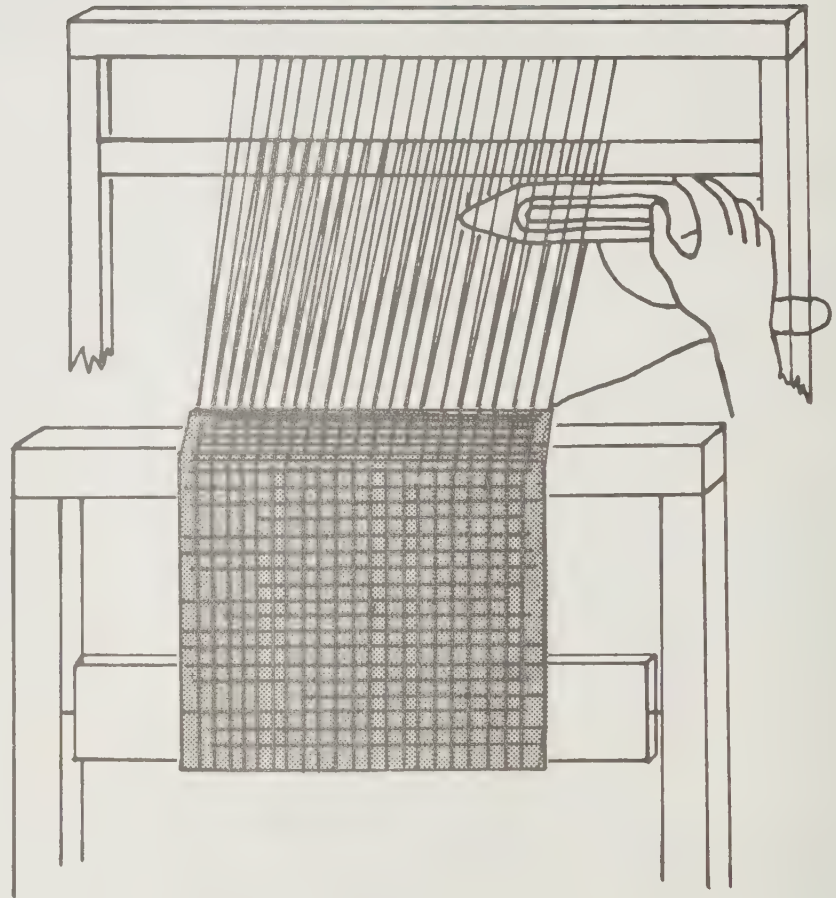

Fig. 31
3. Shuttle is passed through this opening (the shed) and caught at the opposite side of the warp. The hole through which the warp comes from the shuttle should be towards the weaver. See Fig. 31.